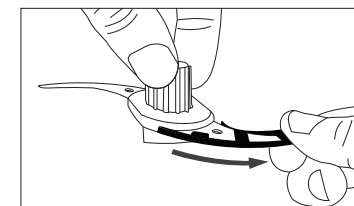

Figure 1
Hold the Upper Blade Assembly by the ridged plastic above the blade (see Figure 1). Grasp the black protective cover then slide it off the Blade Assembly. Repeat to remove the second black protective cover.
- To disassemble both Blade Assemblies, always hold the lower Chopping Blade Assembly by the lower rectangular indentations on the Shaft. Hold the Upper Blade Assembly by the ridged plastic above the blade (see Figure 1).